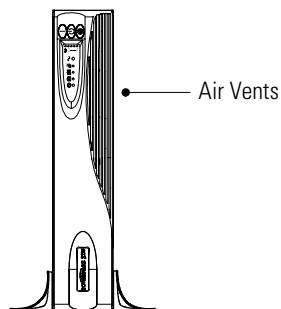

Figure 6. Pedestals with One Cabinet
4. Carefully position the cabinet upright with the air vents at the top (see Figure 6).